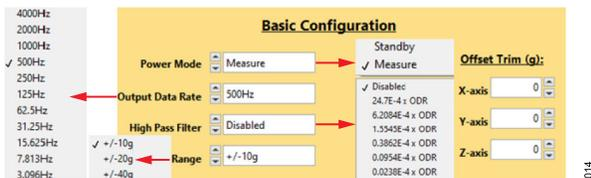

Figure 12. Basic Configuration
- ▶ **Power Mode.** Ensure that the power mode is set to **Measure** when capturing data (see Figure 12).
- ▶ **Range.** There are three user selectable ranges available for measuring acceleration. Users can adjust the range from ±2 g to ±8 g for the ADXL355 and from ±10 g to ±40 g for the ADXL357 (see Figure 12).
- ▶ **Offset Trim (g).** The user has the option to set the offset value for each axis in the **Offset Trim (g)** section. This feature allows the user to eliminate offsets in any of the axes, providing the trimmed data as the resulting output (see Figure 12).